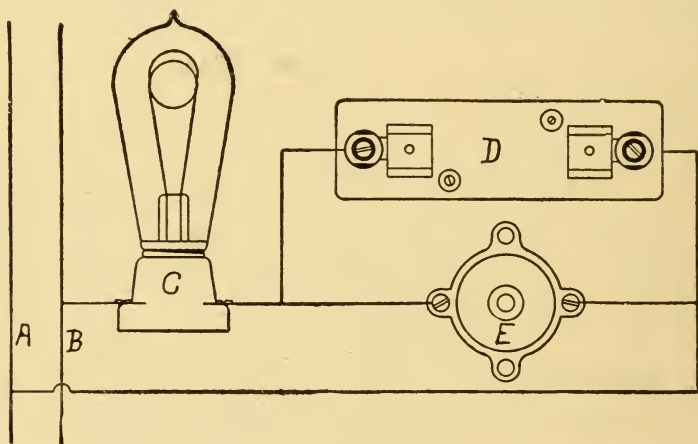

FIGURE 28
(92) Fuses may be tested by a simple device like that illustrated in Fig. 28, in which D is a block to hold a single ferrule fuse, C a lamp receptacle and an ordinary incandescent lamp of proper voltage and convenient candle power. E is a plug fuse receptacle. A and B are any two nearby live circuit wires. If either a good cartridge or good plug fuse is inserted, the lamp will light up.